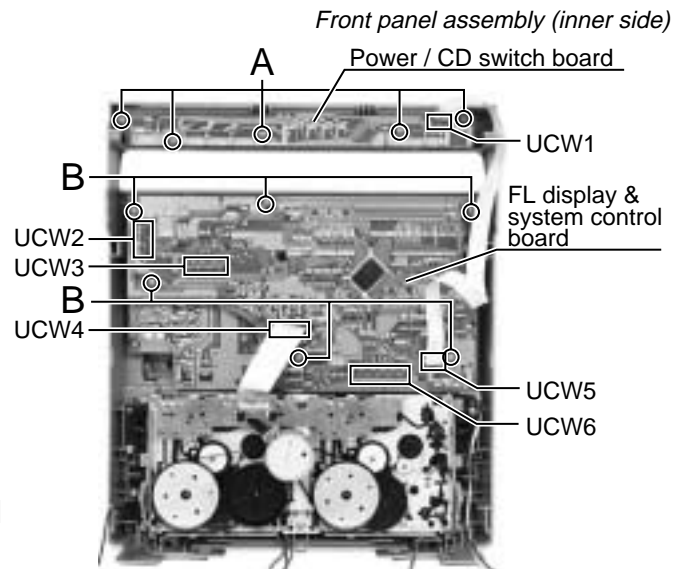

Fig.1
■ Removing the power / CD switch board (See Fig.1)
■ Removing the FL display & system control board (See Fig.1)
■ Removing the CD tray (See Fig.1 to 3)